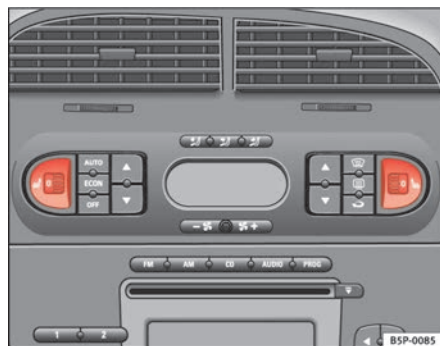

Fig. 95 Thumb wheel for the front seat heating
- Turn the appropriate thumb wheel $\Rightarrow$ fig. 95 to switch on the seat heating. The seat heating is switched off in the **0** position.